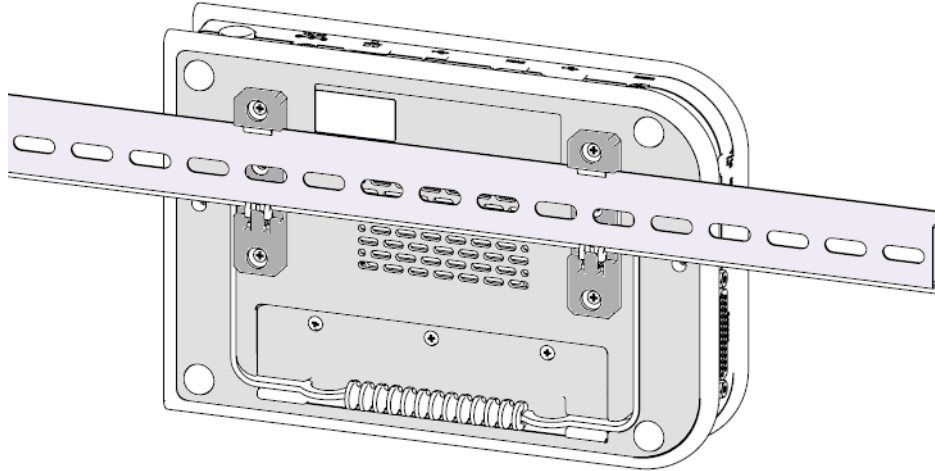

Figure 3-10. Attach the Mounting Clips to DIN Rails
5. To install, slide the lower edge of the brackets onto the lower edge of the DIN rail, and snap the meter up to engage the top of the brackets, as shown in Figure 3-10.